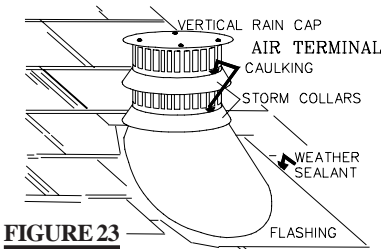

FIGURE 23
5. Thread the air terminal pipe assembly down through the roof support and attach, ensuring that a minimum 16" of air terminal will penetrate the roof when fastened. **FIGURE 23**. If the attic space is tight, we recommend threading the Wolf Steel vent pipe collar or equivalent loosely onto the air terminal assembly as it is passed through the attic. **FIGURE 29**. The air terminal must be located vertically and plumb.
6. Remove nails from the shingles, above and to the sides of the chimney. Place the flashing over the air terminal and slide it underneath the sides and upper edge of the shingles. Ensure that the air terminal is properly centered within the flashing, giving a 3/4" margin all around. Fasten to the roof. Do NOT nail through the lower portion of the flashing. Make weather-tight by sealing with caulking. Where possible, cover the sides and top edges of the flashing with roofing material. **FIGURE 23**.